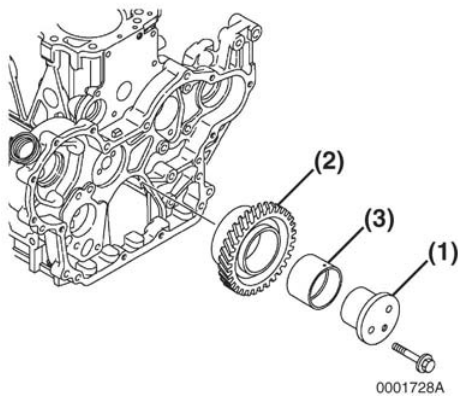

Figure 6-88
1. Remove the bolts from the idler gear shaft (Figure 6-88, (1)). Remove the idler gear shaft, idler gear (Figure 6-88, (2)) and bushing (Figure 6-88, (3)).